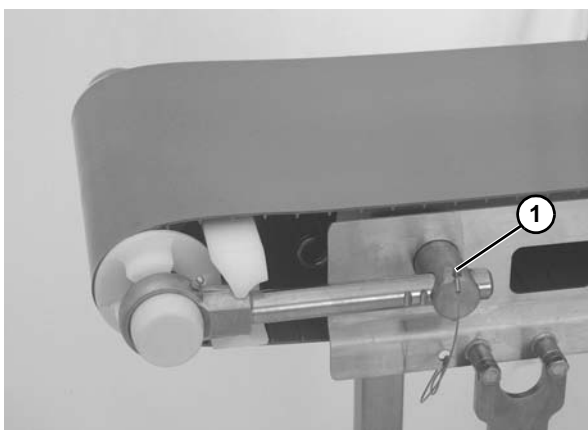

Figure 12
7. Place the idler tail in the down position (Figure 12).